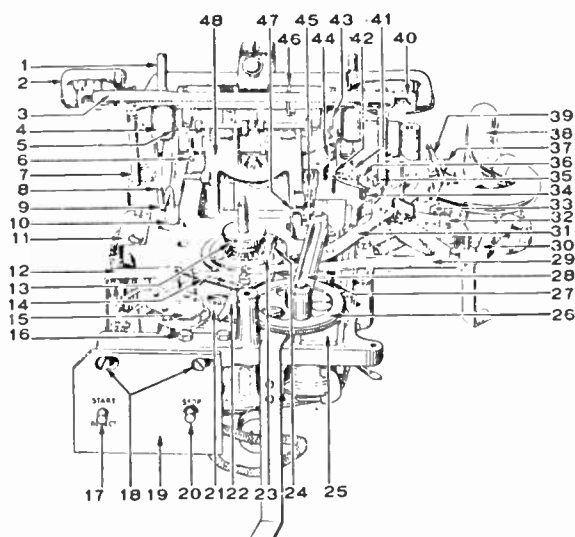

Fig. 1 - Automatic Mechanism with Motor Board Removed
- a. Replace thrust washer (No. 25, Fig. 1).
Turn the link pin adjuster until the rollers of the lift lever mechanism 48, Fig. 1, are in the slots pressing against the extreme end of their track (cam).
- a. Loosen the clamping screw for the eccentric screw, 32, Fig. 1, in the taper tube arm casting.
First - Place a socket wrench over the lock nut on the under side of the 10" eccentric stop 35, Fig. 1, and a short screw driver down through the hole in the motor board and into the slot of the 10" eccentric stop.